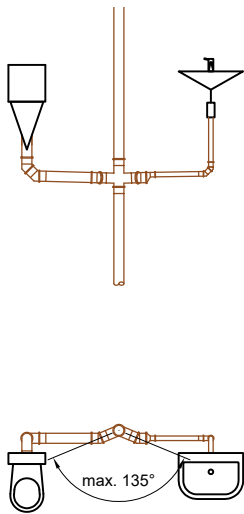

Figure 1
- Individual or group connecting pipes longer than 4 m (see Fig. 1) or with more than 3 bends must be ventilated separately. The air duct must be connected at the point in the pipe where the diameter of the pipe corresponds at least to the diameter of the air duct.
- When installing eccentric reducers in horizontal connecting and collecting lines, they should be installed as flush as possible with the vertex (but never flush with the base) (see Fig. 1, detail). In underground pipes, they may also be installed flush with the base.